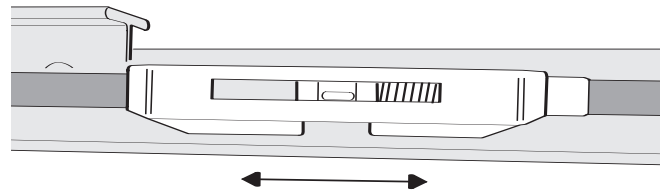

Figure 2 Examine where the carriage stops
- Examine where the carriage stop (**Figure 2**)..